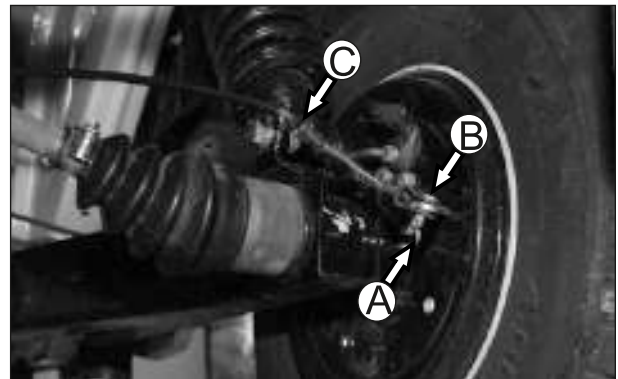

Fig. 5.70
- Unfold the parking brake split pin (A) and pin (B) from lever parking brake. (Fig. 5.70)
- Disconnect the parking brake cable from trailing arm complete rear. (C)(Fig. 5.70)